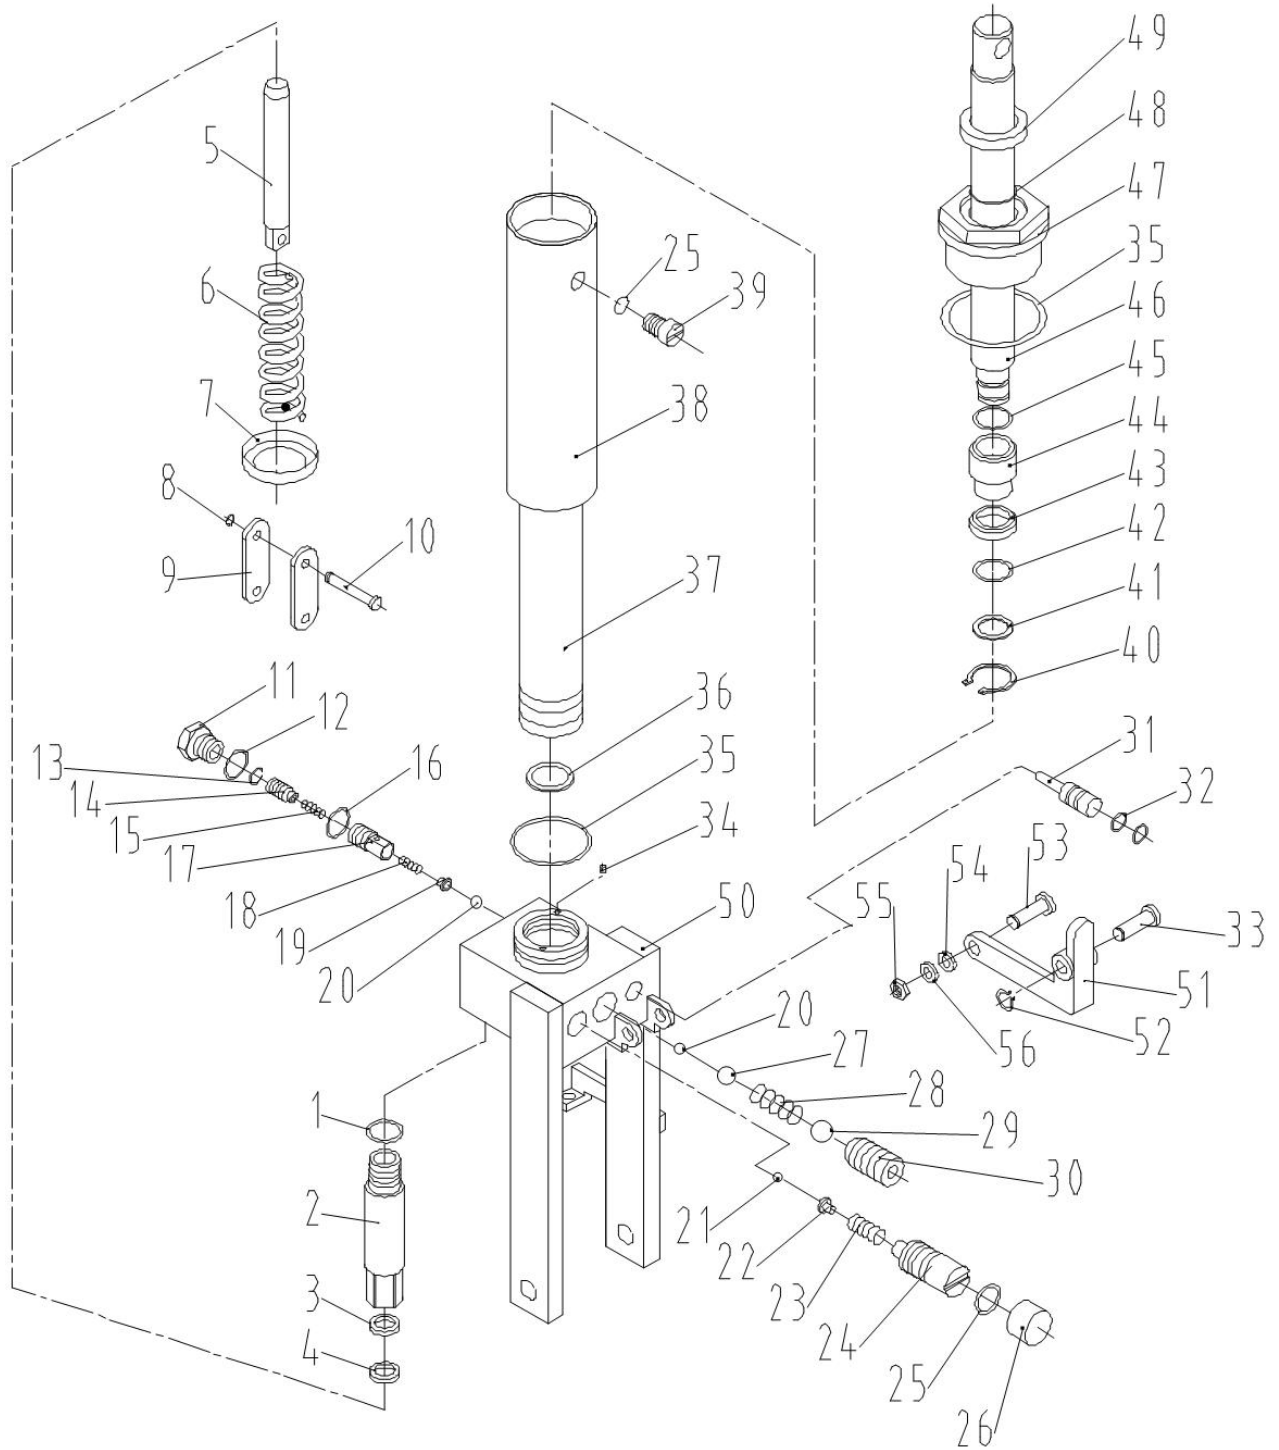

Figure 1
Screw out the 11# sealing screw in the pump (see figure 1 in the appendix ) with a wrench; Pull the knob up; Unscrew the oil plug screw 39# and add hydraulic oil;
8. Materials of the sealing parts 1#,3#,4#,16#,25#,26#,32#,35#,36#,42#,43#,45#,48#,49# of the pump(see figure 1 in the appendix ) is rubber, PU, whose maintenance interval is 2-year. Replace the sealings in time to avoid possible damage and poor performance of the truck.